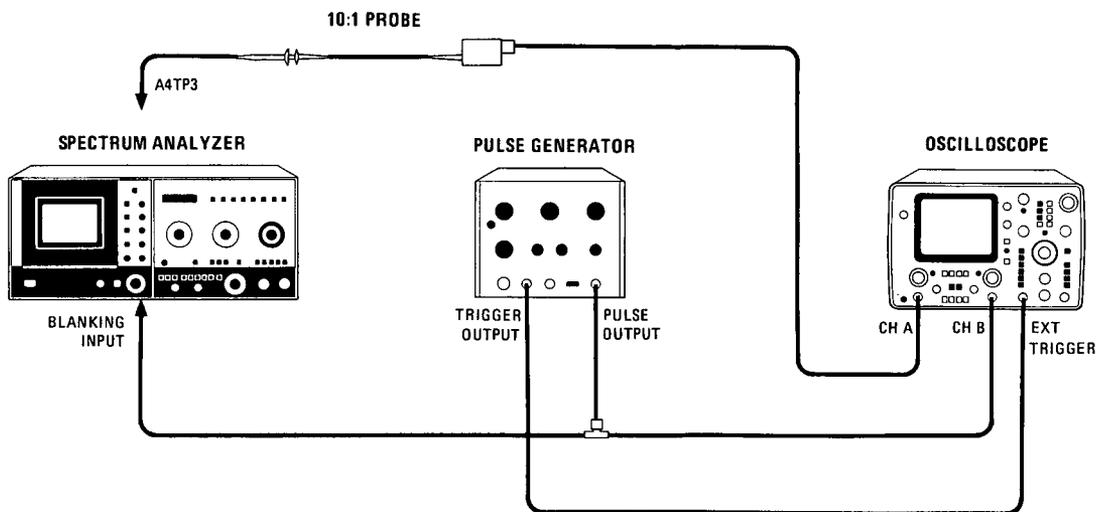
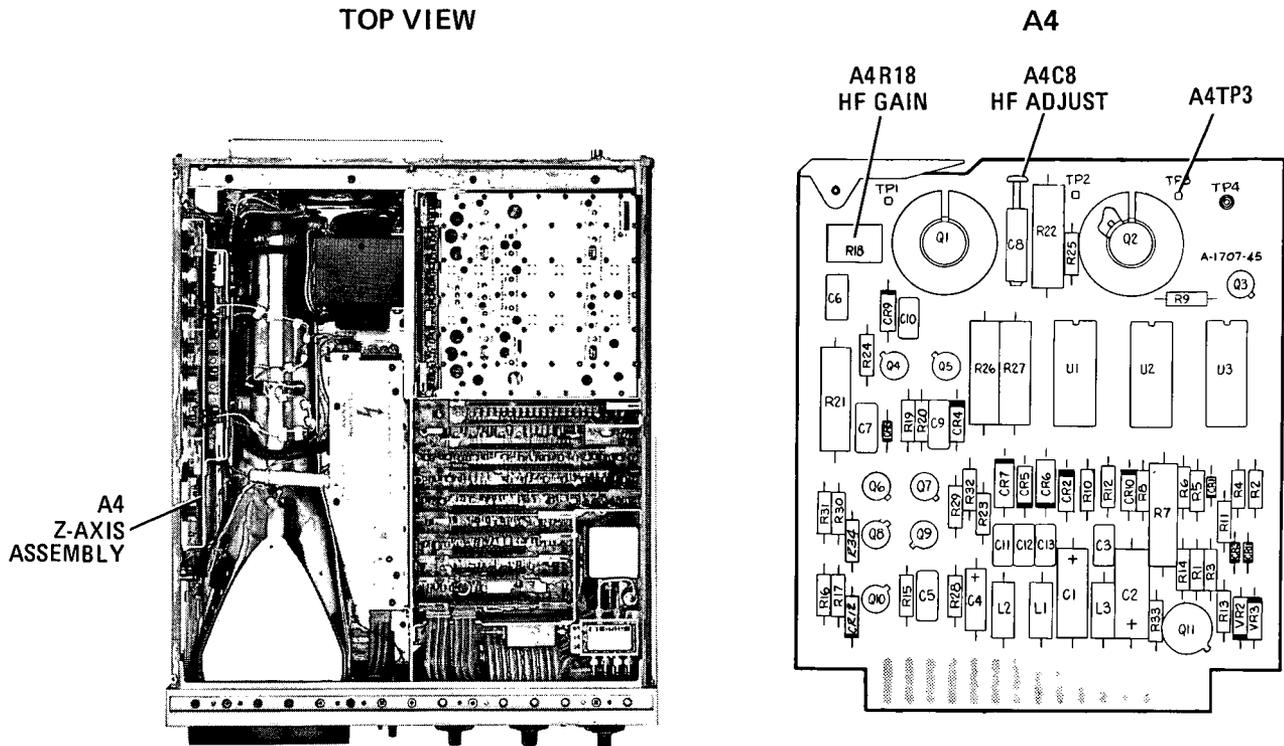
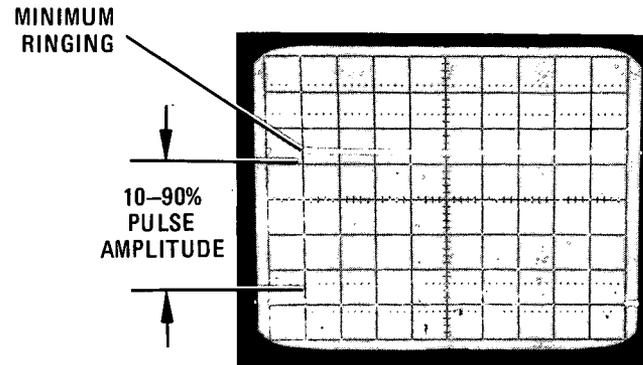

Figure 5-8. Z-Axis Gate Adjustment Test Setup
Figure 5-9. Z-Axis Gate Adjustment Locations
Figure 5-11. Z-Axis Gate Output Oscilloscope Display
- a. Set LINE switch OFF, disconnect power cord, and remove 8565A top cover. Connect equipment as shown in Figure 5-8. Adjustment locations are shown in Figure 5-9.
- f. Connect oscilloscope (Channel A) to A4TP3 GATE OUT (Figure 5-9).
- g. Set oscilloscope controls for a Channel A display as shown in Figure 5-11.
- h. Adjust A4C8 HF ADJUST and A4R18 HF GAIN (Figure 5-9) for an oscilloscope display with fastest rise time and minimum ringing (Figure 5-11). Check rise time between 10% and 90% of pulse amplitude. Rise time should be less than or equal to 50 nanoseconds.
If a photography exposure meter is not available, use an oscilloscope camera (i.e. HP 197A). Set f stop to f16, shutter speed to 1 second, and turn off flash. Adjust A1A2R11 SCALE adjustment so a photograph taken with the camera has approximately the same background brightness as photograph in Figure 5-11. A clockwise adjustment of A1A2R11 decreases background brightness.